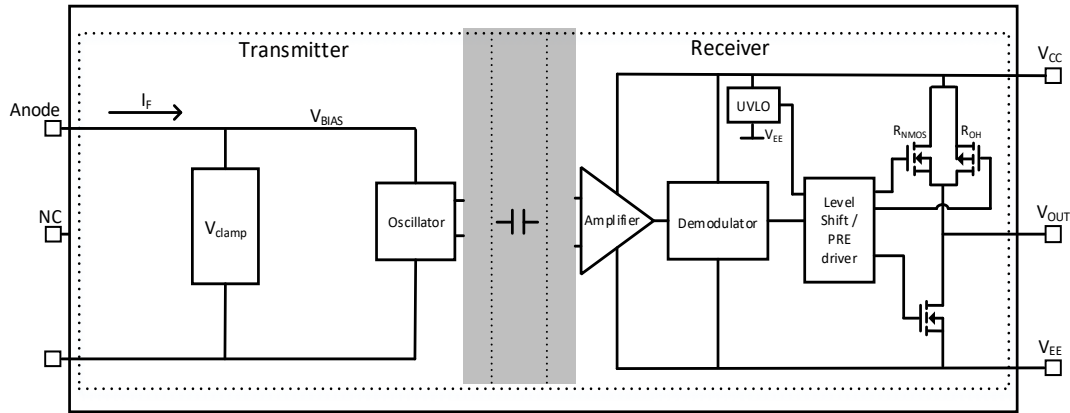
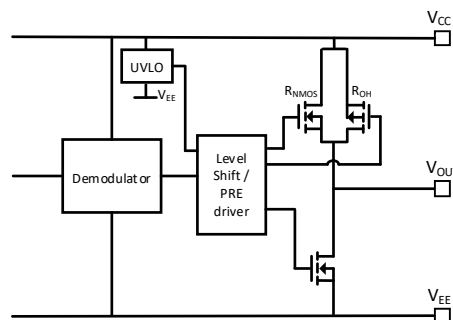
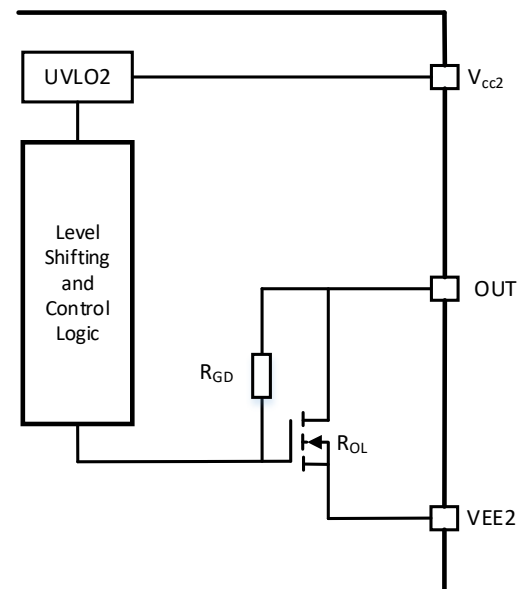

Figure 8.1 NSI6801 Functional Block Diagram
Figure 8.2 NSI6801 Output Stage
Figure 8.3 Active pulldown
NSI6801 requires 7mA to 16mA bias current that flows into the e-diode for normal operation. The PWM from MCU is not suitable to provide such current directly and external circuit is needed. In Figure 8.1, one NMOS is used with split input resistors. Another input drive method is using one buffer, as shown in Figure 8.2. The details to calculate input drive parameters are in Chapter 8.3.
For applications to drive power transistors in half bridge configuration, two NSI6801 can be used. Interlock protection is possible as shown in Figure 8.3. If the controller has some mistake, leading to negative dead time, the output PWM of NSI6801 is adjusted to avoid power transistor shoot through. The input side reverse breakdown voltage of NSI6801 is greater than 6.5V, which supports interlock protection of 3.3V or 5V PWM signal source.
The recommended forward current range for NSI6801 is 7mA to 16mA. The value of input resistor, buffer supply voltage and buffer internal resistance influence the forward current, as shown in Equation (1). In Figure 8.1,  $R_{Buffer}$  is the on-resistance of the external NMOS. In Figure 8.2,  $R_{Buffer}$  is the buffer output impedance in output “High” state. In Figure 8.3,  $R_{Buffer}$  is the summary of buffer output impedance in “High” and “Low” state.